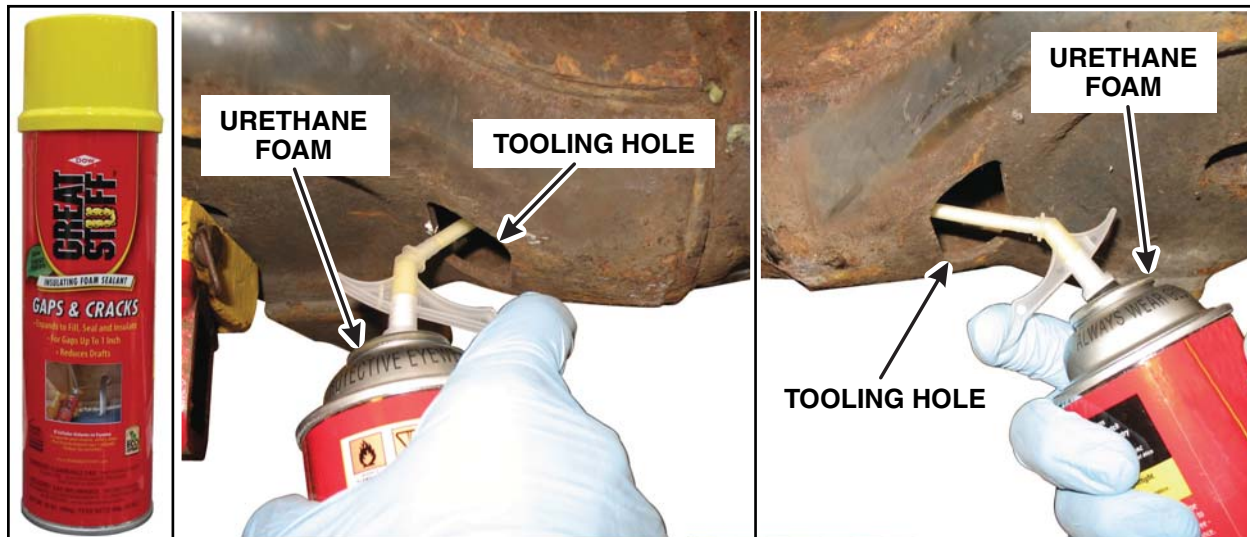

FIGURE 1
4. Obtain one (1) can of Great Stuff™ Gaps & Cracks. Follow the instructions on the can for application. Insert nozzle in tooling hole at bottom of spring seat as far as possible. Pull trigger and remove nozzle in circular pattern. Stop application about 25 mm (1 in) from tooling hole. See Figure 1.